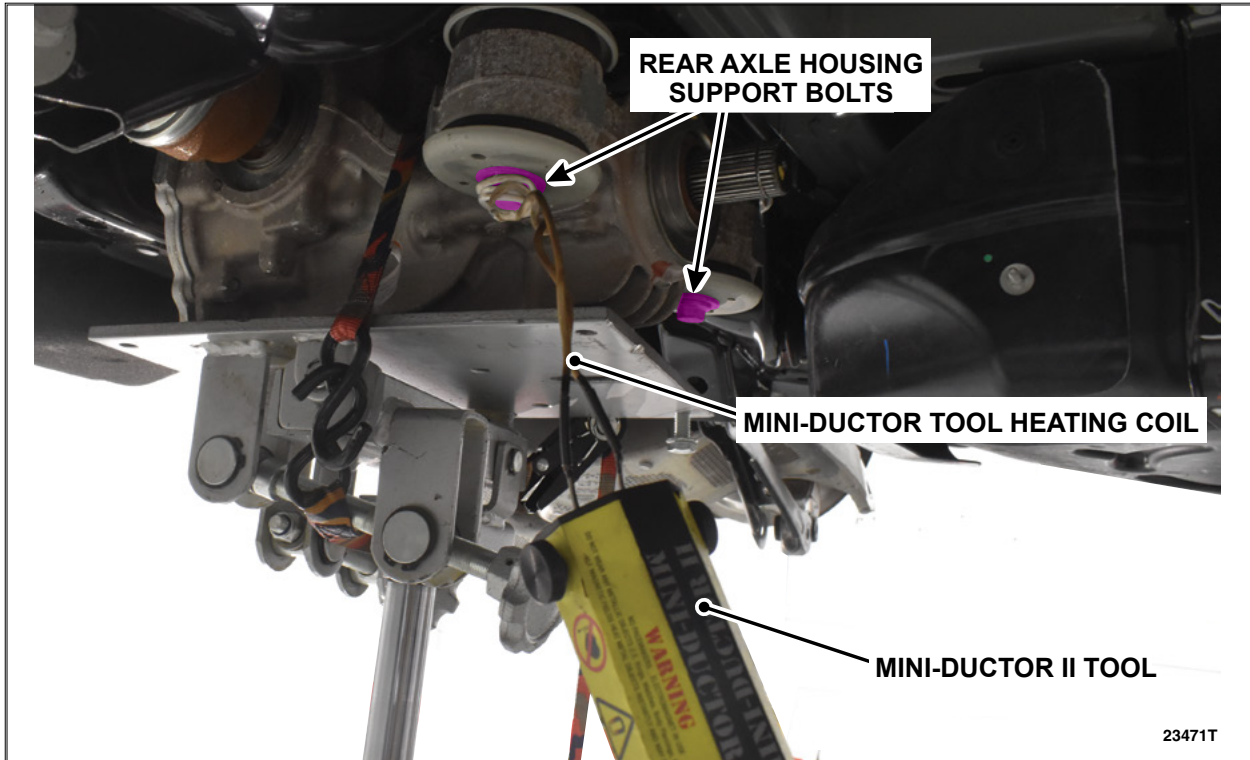
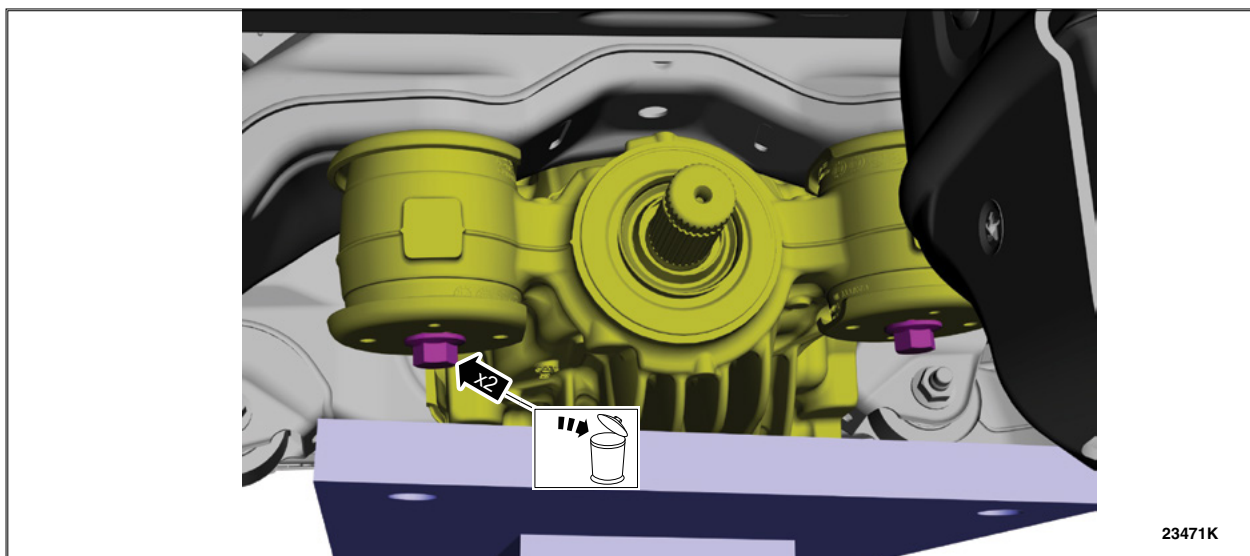

FIGURE 10
FIGURE 11
17. Using a flameless heat tool, such as the Rotunda Mini-Ductor II (part number IDIMD-700) or equivalent, heat up both front rear axle housing support bolts, as shown in Figure 10. Using a breaker bar, loosen both bolts. Then remove and discard both rear axle housing support bolts. See Figure 11.